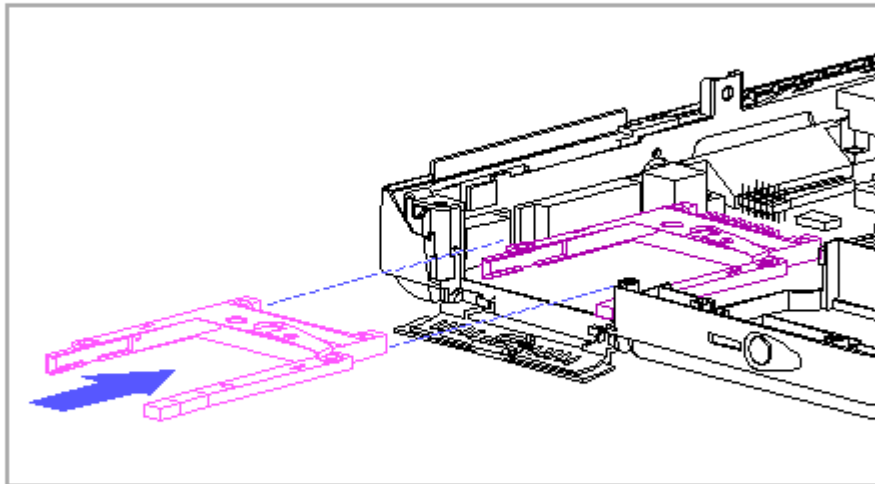

Figure 4-38. Replacing the PCMCIA Ejector Rails
1. Slide the bottom ejector rail into position until it locks into place (Figure 4-38).
2. Slide the top ejector rail into position until it locks into place (Figure 4-38).